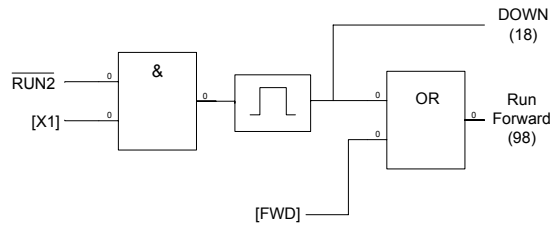

Figure 1. Logic circuit diagram.
Figure 1 shows the logic circuit diagram of the proposed solution by Customizable Logic. The solution consists in using one digital input (for example X1) for “Speed Reset”; this input is set with NO function (100). As soon as X1 becomes high and the inverter is NOT in RUN2 state (function 1035), DOWN function (18) and RUN Forward command (98) are activated for a short time (pulse time adjusted by Customizable Logic function). As explained before, by activating DOWN and RUN Forward at the same time the speed set point becomes zero because the actual speed is zero (inverter was previously in STOP mode) and therefore resetting the speed set point in UP/DOWN control.